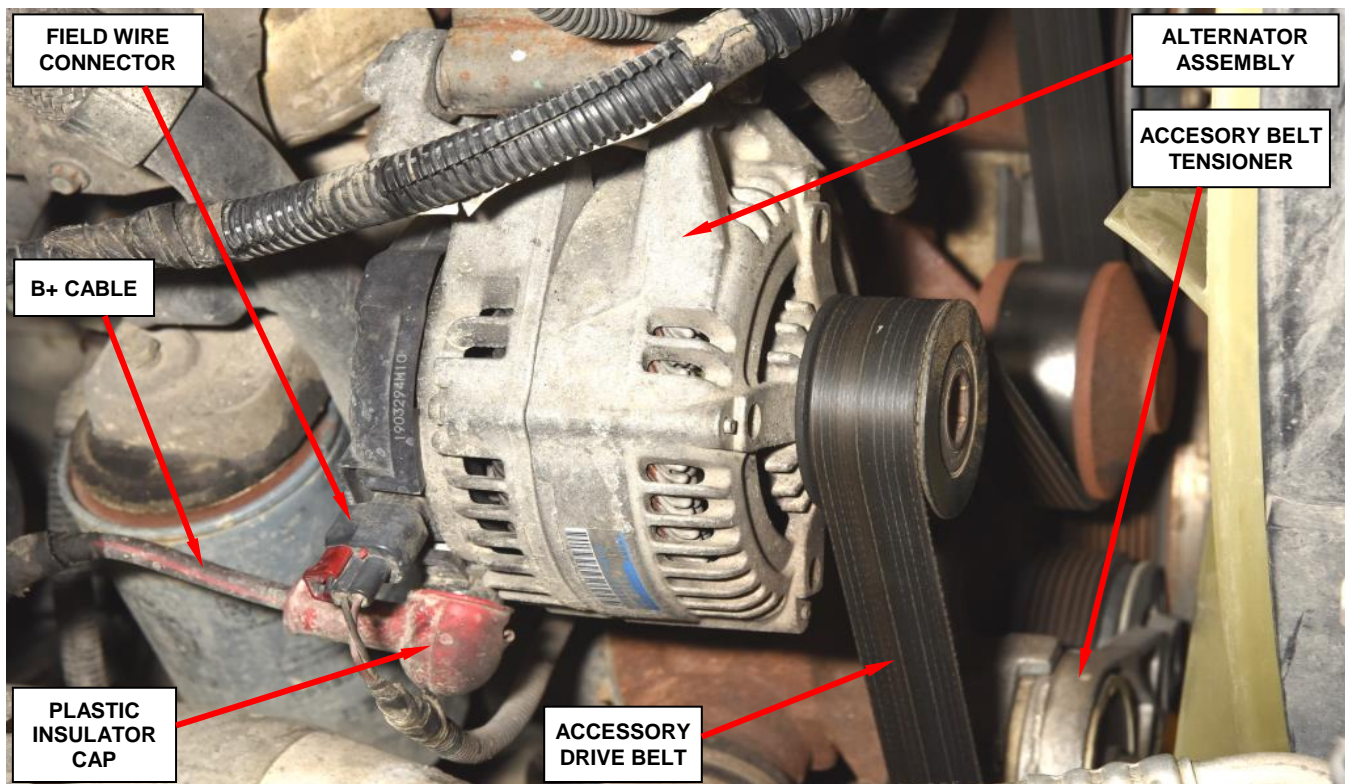

Figure 5 – Alternator Wiring
1. Carefully release the tension on the accessory drive belt (Figure 5).
2. Disconnect field wire connector from the alternator (Figure 5).
3. Unsnap plastic insulator cap from B+ output terminal (Figure 5).
5. Disconnect the B+ cable from the alternator assembly (Figure 5).
12. Snap the plastic insulator cap onto B+ output terminal (Figure 5).
13. Connect the field wire connector into the alternator (Figure 5).
14. Carefully install the accessory drive belt (Figure 5).